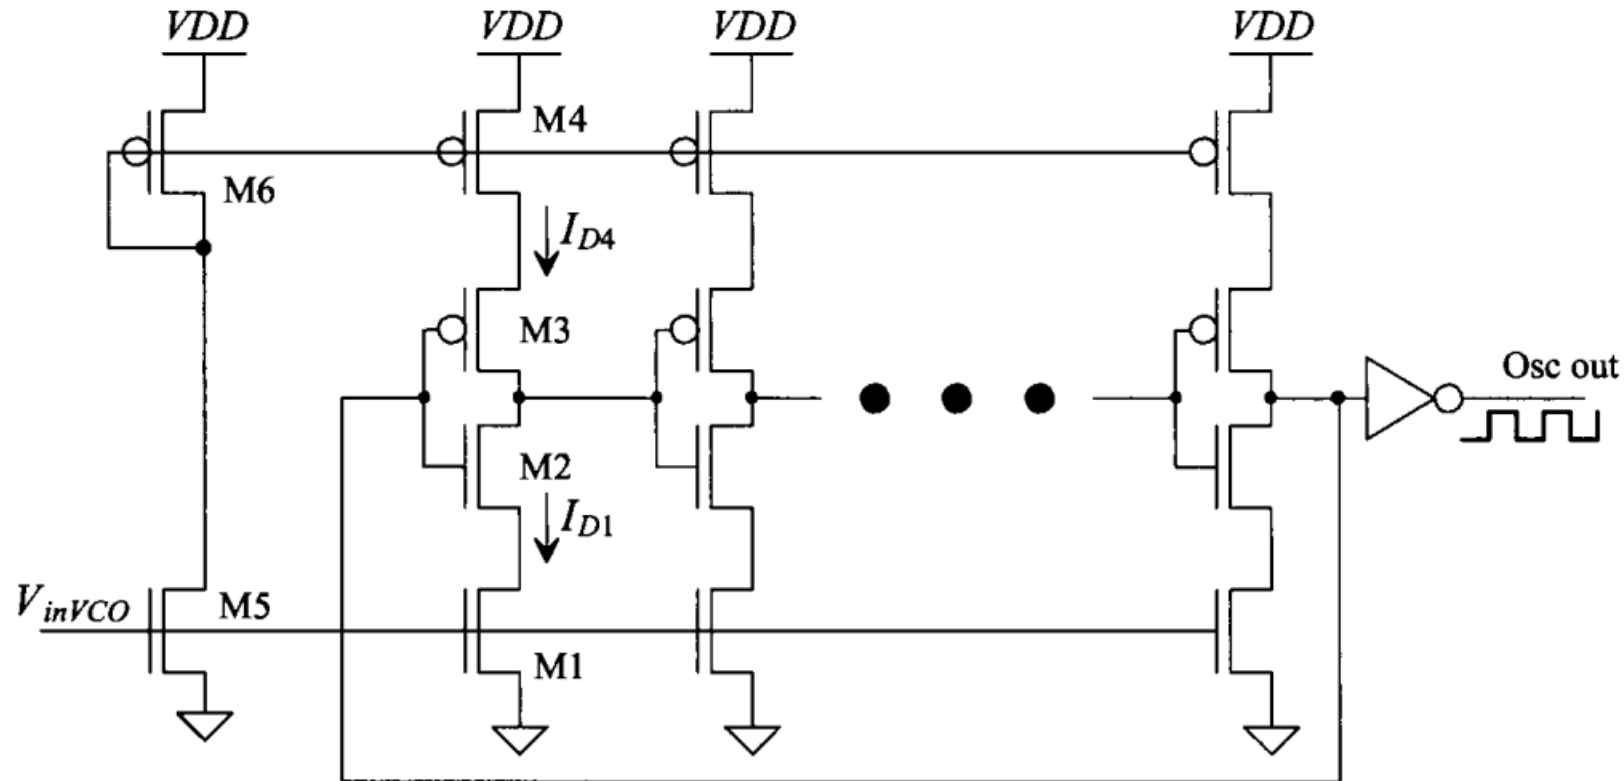

**Figure 19.2** Data input to DPLL in lock and possible clock outputs using the XOR phase detector and PFD.
A more detailed picture of the incoming data and possible clock signals out of the DPLL are shown in Fig. 19.2. The possible clock signals are labeled XOR *clock* and PFD *clock* (phase frequency detector) *clock*, corresponding to the type of phase2 detector (PD) used. For the XOR PD, the rising edge of the clock occurs in the center of the data, while for the PFD, the rising edge occurs at the beginning of the data. The phase of the clock signal is determined by the PD used3.